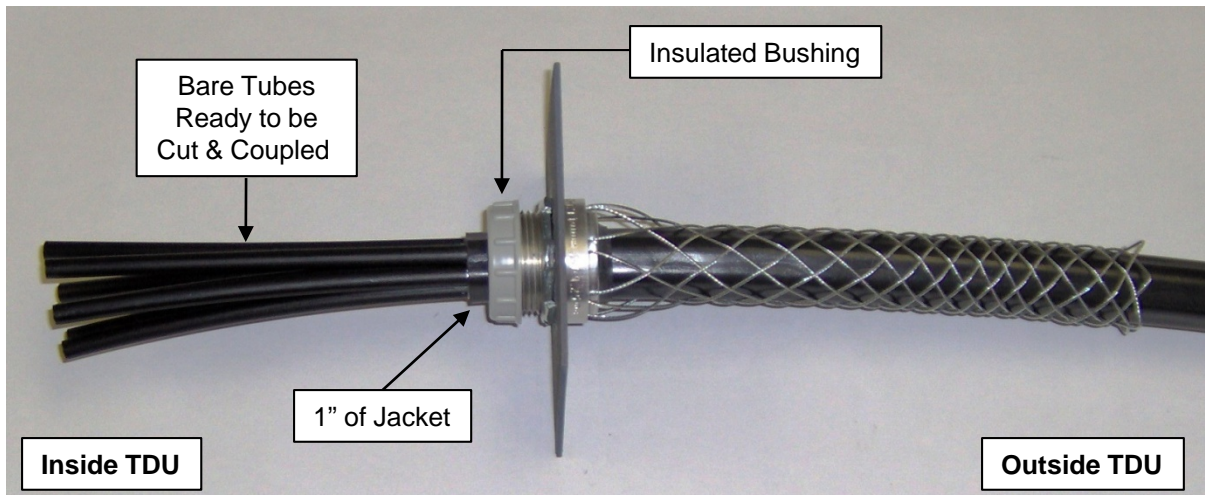

Figure 4
7.12 Slide plastic Insulated Bushing over end of tubes / tube cable, thread onto Grip, and firmly hand-tighten only. **See Fig. 4.**